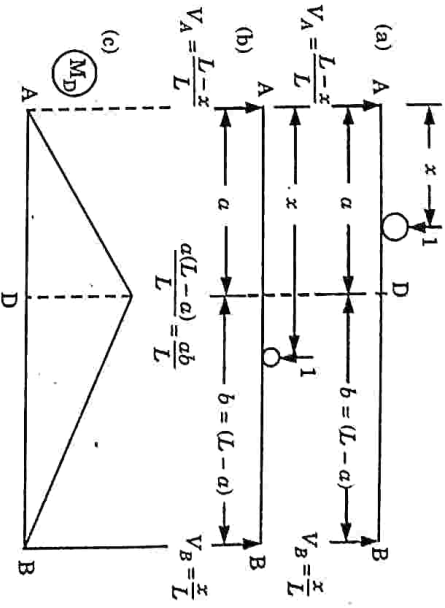

Fig. 4.8.2.
1. Fig. 4.8.2 shows a simply supported girder AB of span L. Let a unit load move from the end A to the end B of the girder.